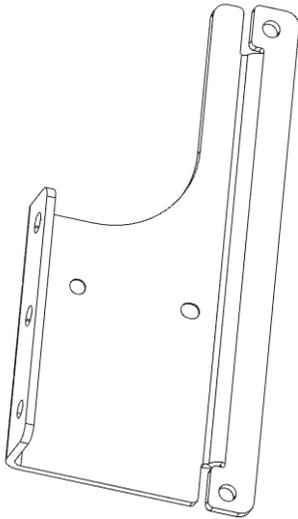

Figure 6. Straight Extender
- ▶ NVPN: 682-00003-5555-000 – Straight extender (Figure 6)